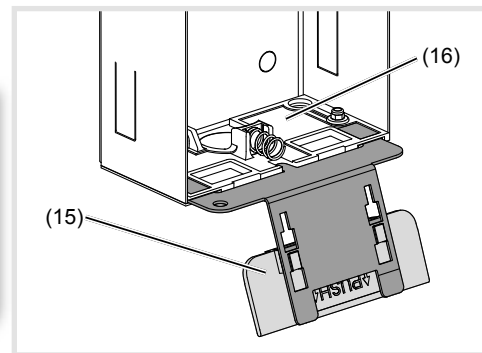

Figure 5: Inserted opening tool
(14) Support bracket of the fastening elements
- Insert opening tool (15) into the mounting device of the lower fastening element (16) on the housing (Figure 5).
(15) Opening tool
(16) Fixing element
- Attach the loops of the safety rope (17) to the upper left suspension of the door station and to the upper fastening element (18) in the housing. Place the door station for installation onto the opening tool (Figure 5).